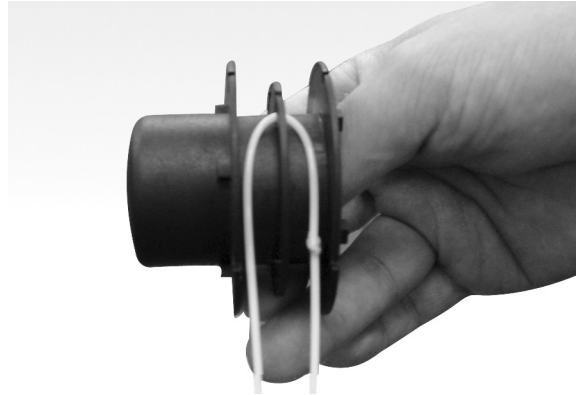

Fig. 20
4. Using 0.065" replacement line measure off approximately 14' of line. Double over the cutter line into two equal lengths and place loop in slot of the spool divider (Fig. 20).